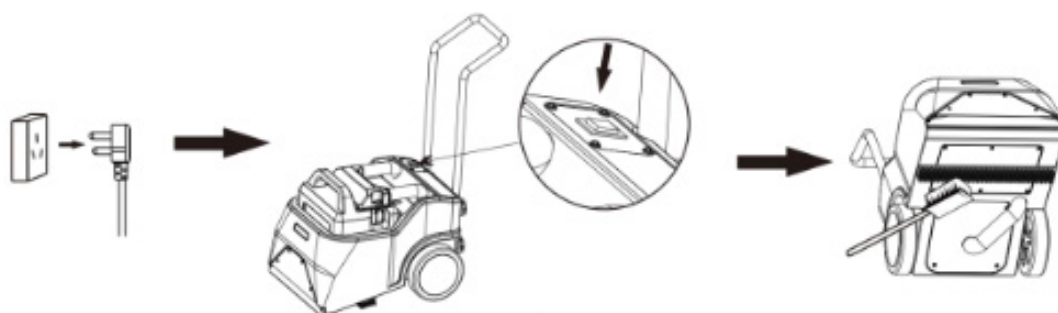

Figure 6
6. After completing your work, press the Water Absorption switch to turn off the machine. Unplug the power cord, then clean the wastewater tank and comb brush thoroughly. (See Figure 6)